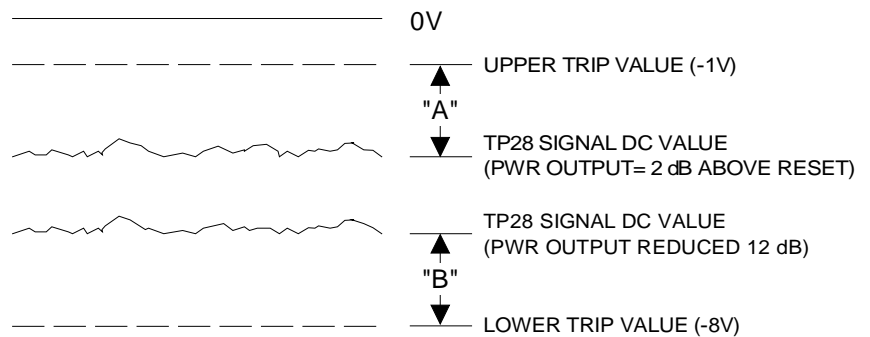

Figure 6-21. RF Models ALC Operating Point Adjustment Point Diagram
- Note that this value is nominally 2.5V below the $-1V$ “Upper Trip” value shown in Figure 6-21. This difference value is labeled “A” in Figure 6-21.